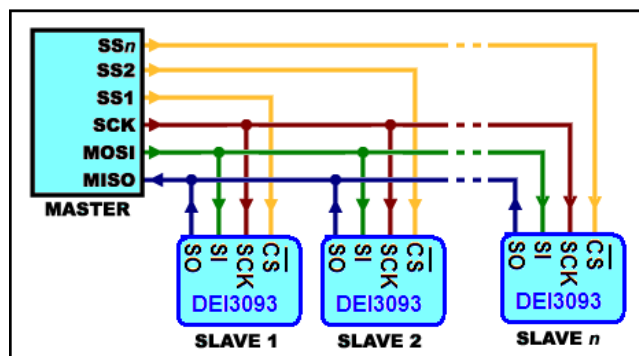

Figure 2 SPI multi-slave example
The DEI3093 Serial Peripheral Interface (SPI) provides host access to internal registers and data FIFOs. A system with single MASTER HOST connected to multiple DEI3093 as slaves can be implemented with multiple Chip Select ($\overline{CS}$) lines. The other lines can be shared among master and slaves. The shared lines are Serial Clock (SCK), Serial Data Input (SI) and Serial Data Output (SO). A daisy chain loop SPI slave system will not work for DEI3093. Figure 2 is showing the interconnects to $\overline{CS}$ needed for multi-slave use.